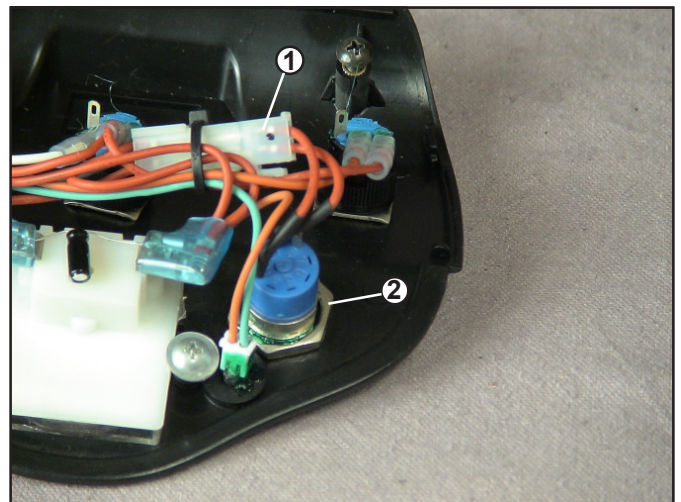

Figure 25. Key Switch
3. Remove the eight (8) screws that fasten the back tiller shroud to the tiller.
5. Disconnect the key switch from the control panel harness (See #1 on figure 25.)
6. Remove the nut that fastens the key switch to the control panel. (See #2 on figure 25.)